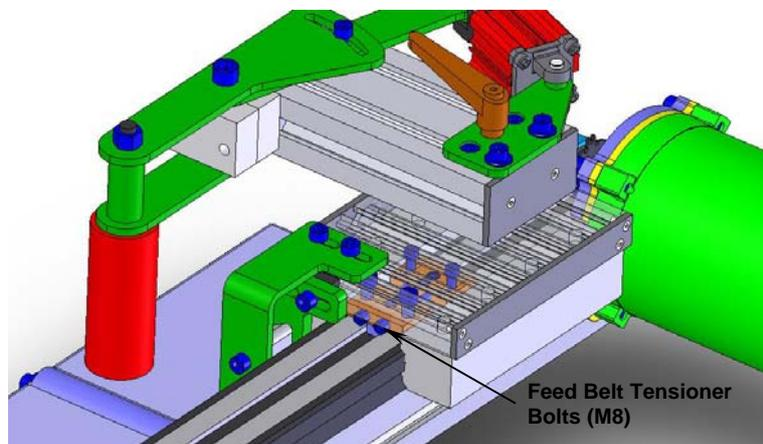

Figure 4.2 – Material Feeder Drive Belt Tensioner
- 5) Regularly check condition of the material feeder belt and ensure it is appropriately tightened at the tensioner located underneath the feeder carriage (Figure 4.2) by tightening two horizontal M8 bolts. If it is loose or not able to hold tension, contact Reconeng for belt replacement.